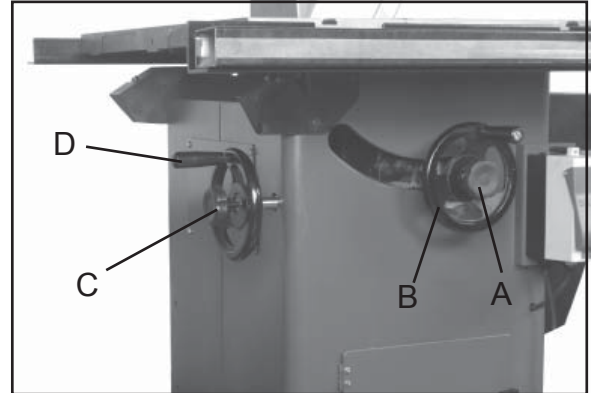

Figure 24
1. To raise or lower the saw blade, loosen the lock knob (A, Fig. 24) and turn the handwheel (B, Fig. 24) on the saw front until desired height is reached. Tighten lock knob. The blade should be adjusted 1/8" to 1/4" above the top surface of the material being cut.
2. To tilt the saw blade, loosen the lock knob (C, Fig. 24) found on the left side of the table saw and turn handwheel (D, Fig. 24) until desired angle is obtained, then tighten lock knob.